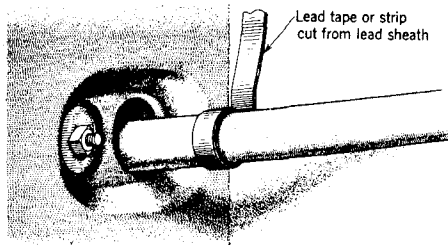

Fig. 1 — Placing Centering Tape
- (1) Wrap a spiral of lead serving tape or 1-inch strips cut from lead sheath around the cable to center the cable in the duct and act as a backing for the Waterplug (see Fig. 1).